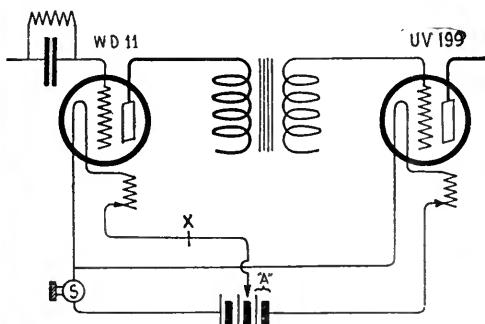

FIG. 7
**A**N INTERESTING circuit condition has been brought to our attention by Mr. James C. Millen, which at first glance seems to defy the electrical axiom that only one switch is required to break a circuit. This momentary puzzle is encountered whenever two tubes of dissimilar filament potentials are operated from a common A battery, the lower filament voltage being secured by tapping. Such a circuit is shown in Fig. 7, in which the tubes are a WD-11